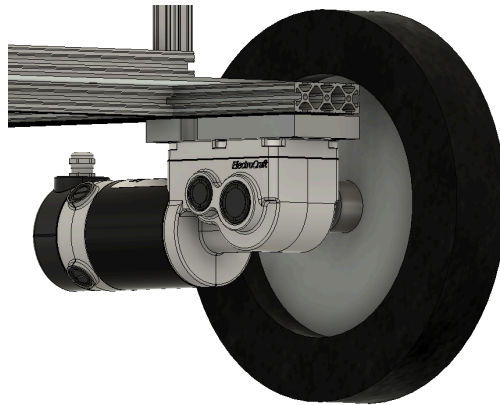

Fig. 3. Wheel and motor attachment and orientation. Drawing created in Autodesk Fusion.
4. Finally, connect the assembly to the base 80/20 using the PT-00011 and PT-00012 built in screw holes on the sides. To do this, 12 x 0.25 in screws are required. The final design should look like Figure 3.